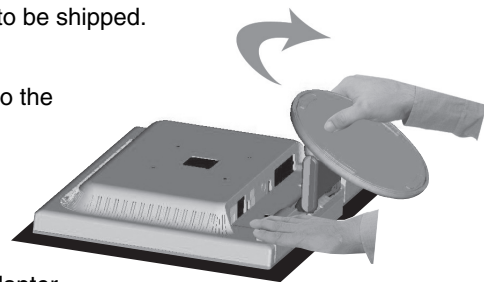

Figure 2
2. Pull the stand holding the monitor with the other hand until the stand clicks (**Figure 2**).